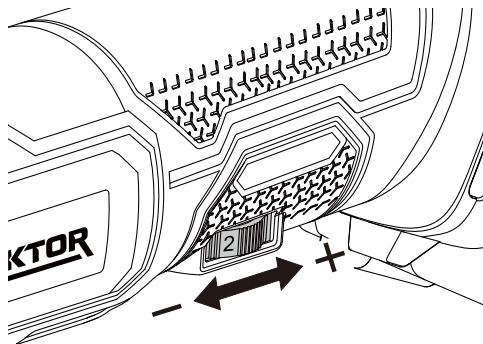

Figure 7
3. ADJUSTING SPEED (SEE FIG. 7)